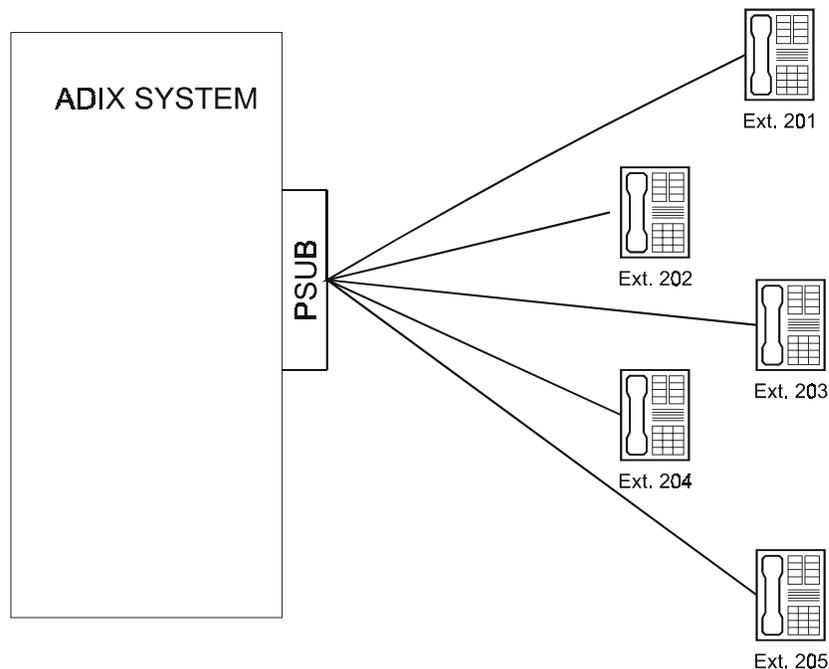

FIGURE 4. EXAMPLE OF HOME RUN STATION CABLING.
- Station cable for ADIX key telephones should be home run as shown below in Figure 4: